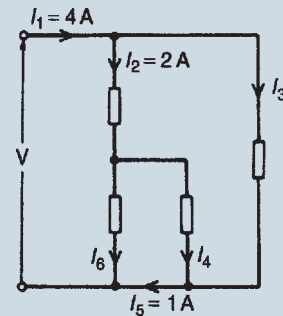

Figure 15.11
1. Find currents I_3 , I_4 and I_6 in Fig. 15.11.